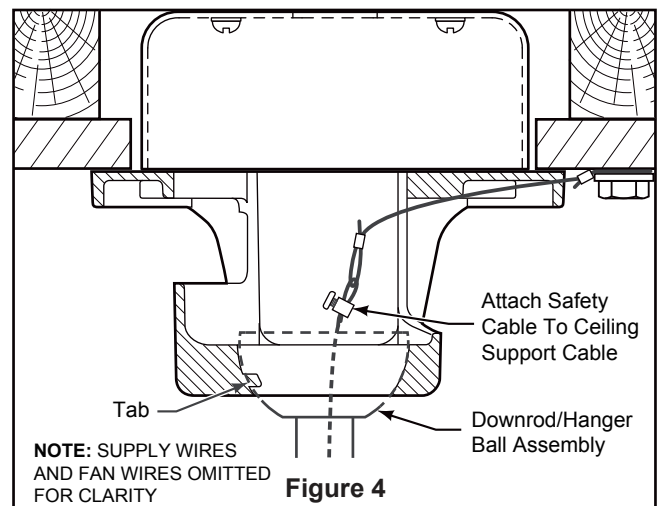

Figure 4
5. Attach the safety cable to ceiling support cable. Slide cable clamp and washer onto safety cable (from fan). Place the end of cable through the loop of ceiling support cable. Pull as much cable through loop as possible. Feed end of cable into clamp hole and firmly tighten screw. (Figure 4)